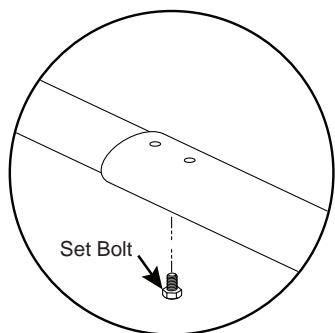

Figure 12. Set Temporary Arm Length
5. Loosen the set bolt on each arm and set the arms to length. Tighten the set bolts (Figure 12).